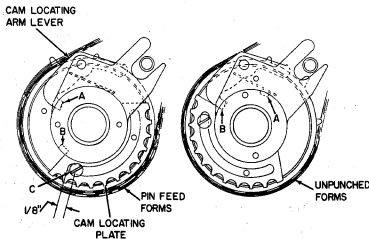

Figure 3
1. With the cam locating arm lever in slot (A) (Figure 3), loosen screw (C) and